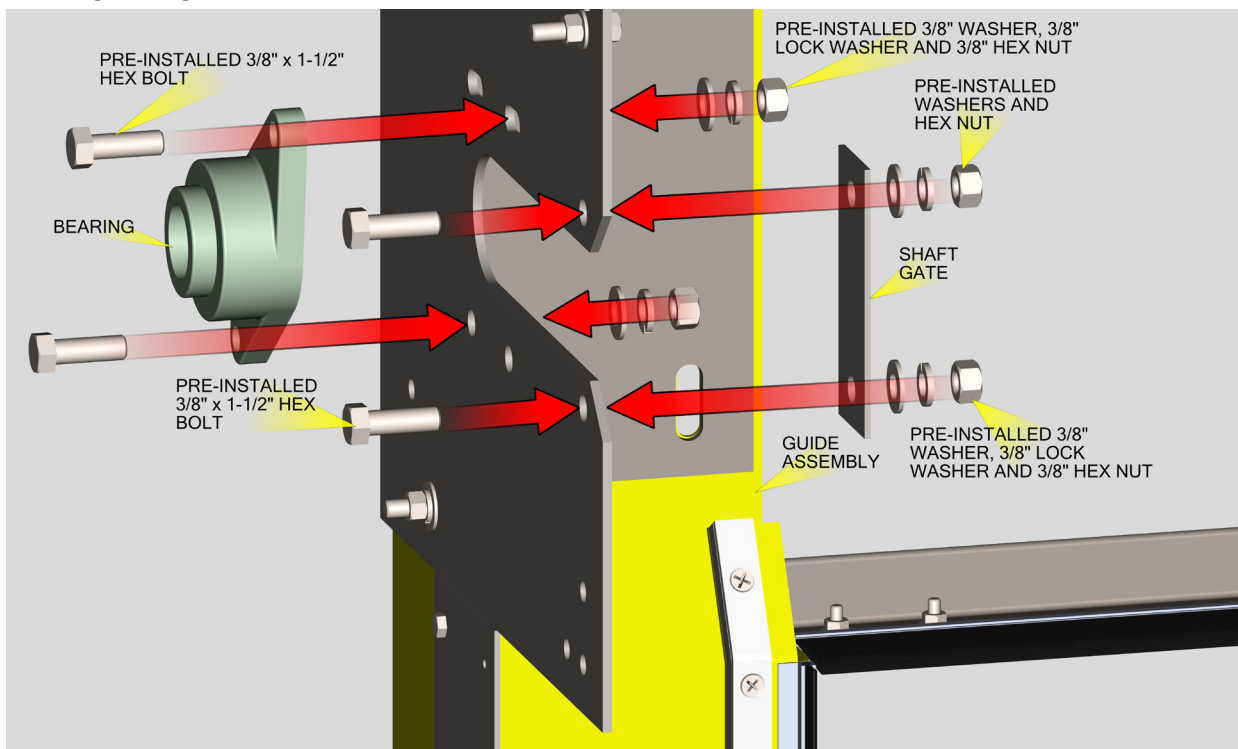

Figure 8
- Remove pre-installed bearings and shaft gates from both headplates, as shown in **Figure 8**.